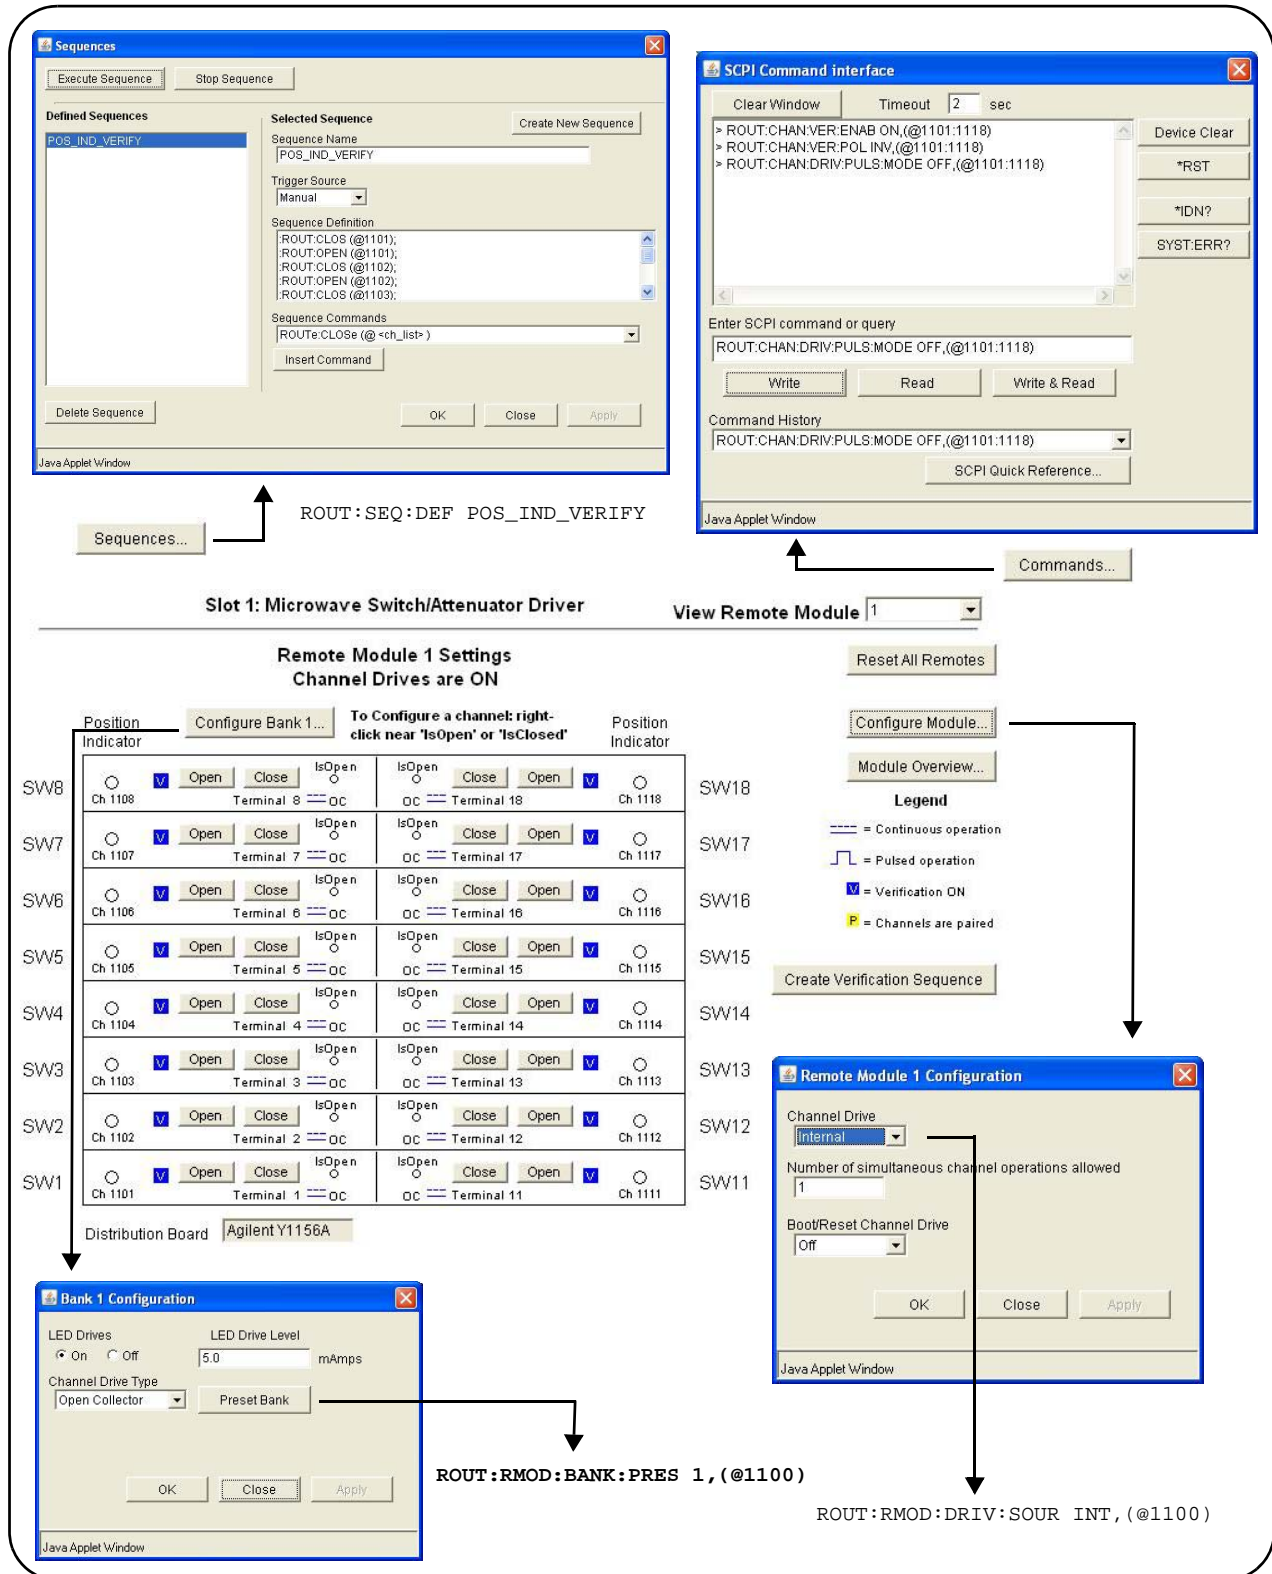

Figure 4-9. Using the Y1156A for Position Indicator Verification.
- 4 In the 'Browser Web Control' window, locate the bank and Y1156A programming diagram. An example of the diagram is shown in Figure 4-9. For this example, the 34945A is installed in 34980A slot 1.
- 6 Open the 'SCPI Command Interface' window (Figure 4-9) and from the window, send the commands: